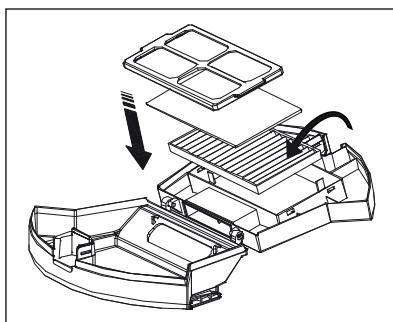

Fig. 13
8) Place the EPA filter 7 and the foam filter back in the compartment and attach the sieve filter to the compartment. Close the dust container 14 (see Fig. 13).